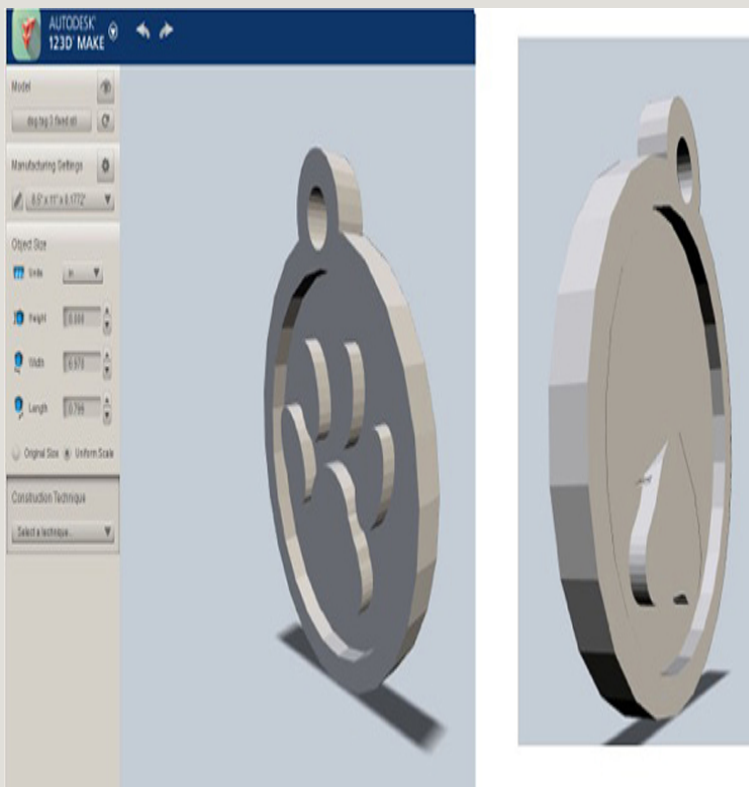

Figure 7-6 The dog tag (*left*) was fixed with Solid Inspector² and imported successfully into 123D Make. The unfixed tag (*right*) imported with parts missing.
1. Model the project. Run Solid Inspector², CleanUp³, SU Solid, and/or any other tool you learned about in Chapter 5 to remove extra geometry and optimize the model as much as possible. A SketchUp model doesn't have to be a solid group or component to import into a CAM program, but if it has a lot of defects, such as nonmanifold edges or holes, it may import with errors or be difficult to work with (Figure 7-6).